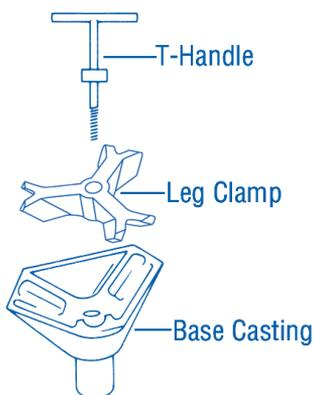

Figure 4
- Screw the base T-Handle clockwise into the bottom of the base casting, until the T-Handle engages the threads (Figure 4.)